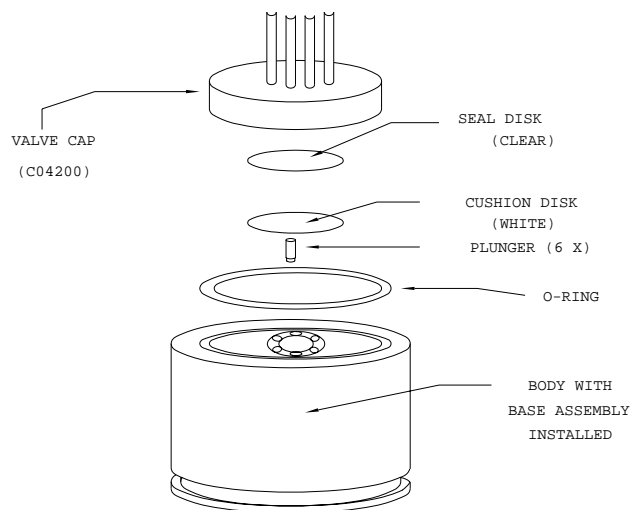

Figure 4-41: Model 11 Valve Major Components
Clear Teflon seal disc (4) MUST BE mounted on top of Dacron cushion disc (5). Refer to Figure 4-41. Align discs over plungers (7).
14.	Securely holding valve cap (3), blow out each port and/or tube with compressed air to remove all acetone and foreign matter.